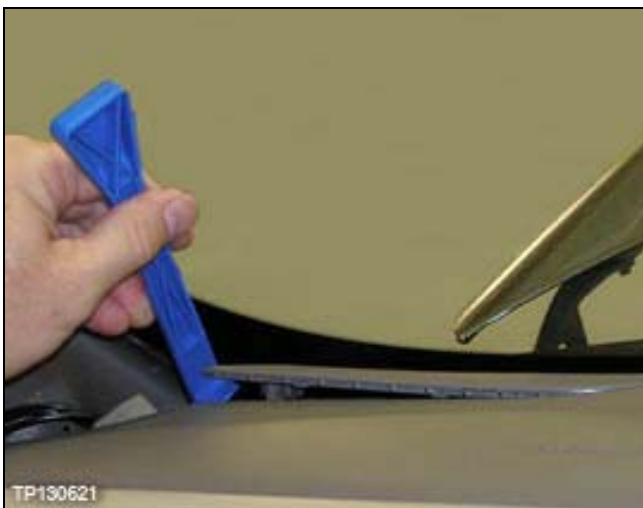

Figure 9
- 10. Pry up to unsnap the LH instrument panel tweeter grille (see Figure 9).